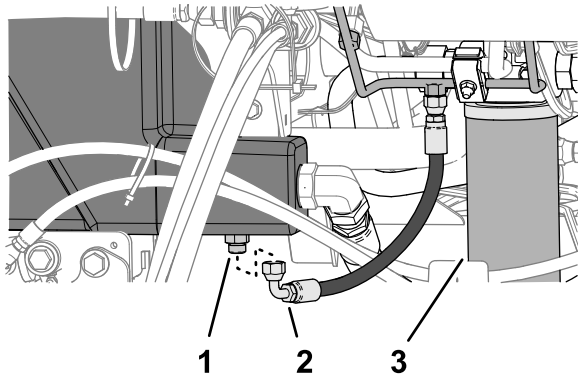

Figure 104
2. Place a large drain pan under the straight fitting (Figure 104) of the hydraulic tank.